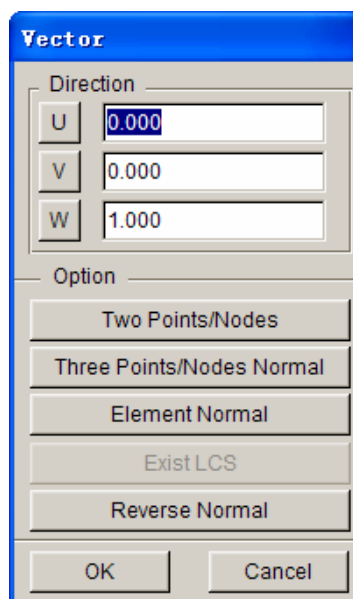

Figure 9.6.3 Vector dialog box
**AXIS DIRECTION** – This function enables the user to specify the direction of extrusion for the locator pin. After the location is defined, a highlighted arrow is displayed on the specified location denoting the direction of extrusion. The default orientation is the global +Z direction or the previously defined direction. The DIRECTION button is activated. The user can edit the direction of extrusion by hitting this button. The VECTOR dialog box as illustrated in Figure 9.6.3 is displayed to enable the change of direction.